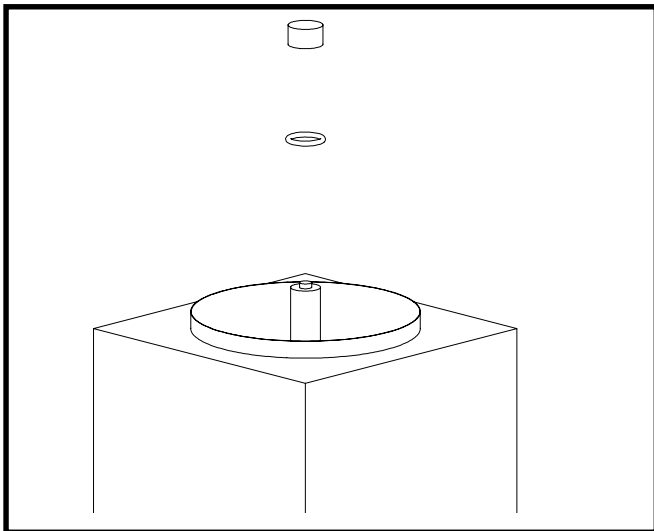

Figure 18
1. Remove the drive cap and o-ring from the agitator tube (Fig.18).